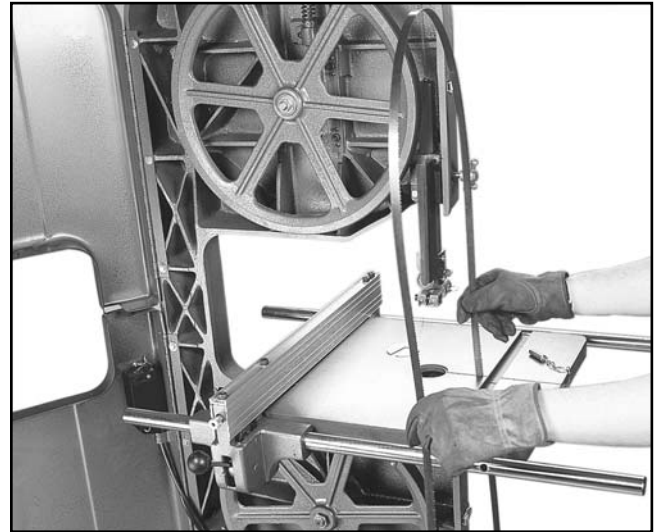

Figure 23. Changing blade with leather gloves.
6. Rotate the blade 90° so it will slide through the slot in the table as shown in **Figure 23**.